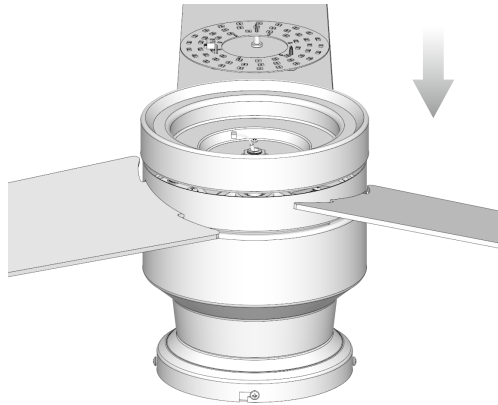

Fig. 3.2
3.2 Allow the wire plug to pass through the light kit. Reinstall the light kit. The light kit will be magnetically attracted to the pan with the help of magnets, as shown in Fig. 3.2.